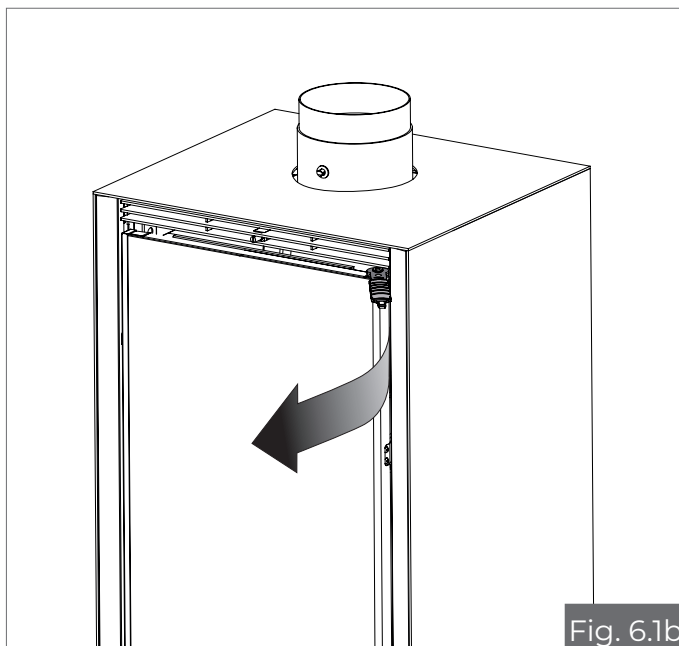

Fig. 6.1b
- **IKI UP/IKI UP TF:** insert the supplied key into the upper opening hook (Fig. 6.1b), and pull toward you. Attention! After half of the opening, an automatic system will tend to leave the door open.